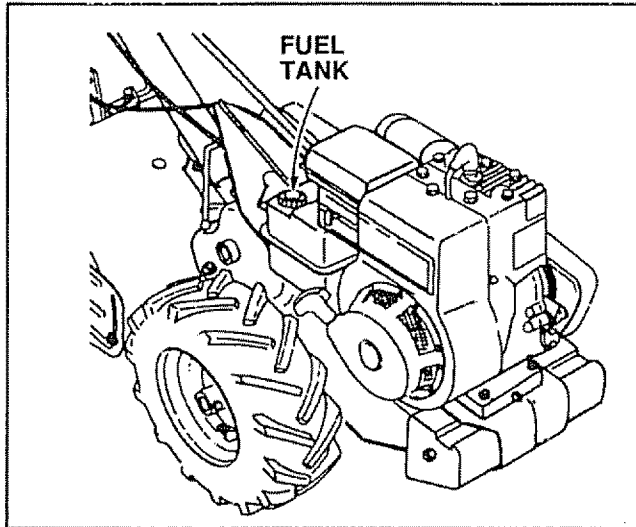

FIGURE 16
- To fill Fuel Tank (Fig. 16), use fresh, clean regular unleaded automotive gasoline. Capacity is about 2 quarts.